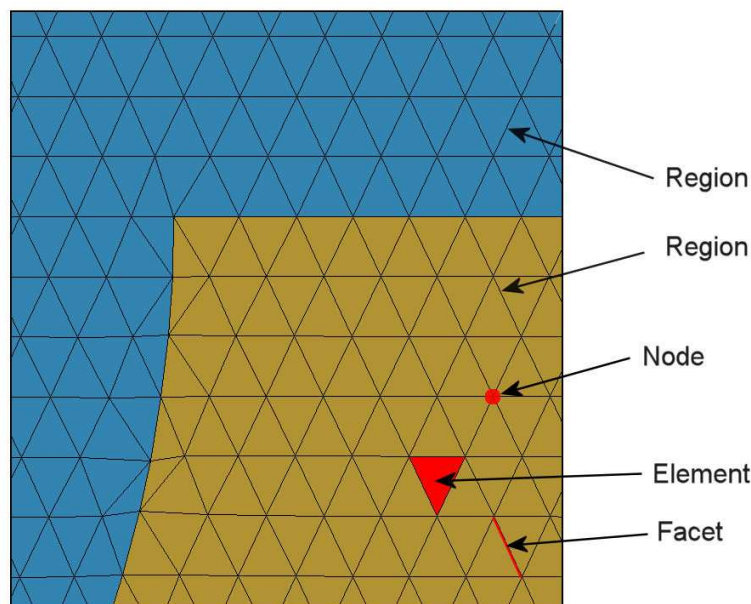

Figure 1: Conformal triangular mesh – definition of terms.
The basis of the finite-element approach is to divide the full solution volume into a number of small volumes, or *elements*. Here, the term *small* indicates that element dimensions are much less than the scale length for variations of field quantities. The division of the volume is called the *computational mesh*. Figure 1 shows the type of mesh used for the two dimensional solutions of **Nelson**. The figure defines three terms that will be used throughout this manual:
The elements in Fig. 1 have triangular cross-sections. In a planar solution, the cross-section lies in the x - y plane and the elements extend an infinite distance in the z direction. In a cylindrical solution, an element is a figure of revolution about the axis with a triangular cross-section in the z - r plane.
The mesh in Fig. 1 has the important property of *conformality*. The term means that the triangles have been specially shaped to conform to the boundaries between materials (*regions*). As a result, each element has an unambiguous material identity. The finite-element method is based on two approximations: 1) material properties in an element are uniform and 2) elements are small enough so that the field quantities can be approximated by simple interpolation functions. With these assumptions, the governing differential equation can be integrated over elements surrounding a node to yield a linear equation. This equation relates the field quantity at the node to those at the surrounding nodes. The coupled set has one linear equation for each node in the mesh. In **Nelson**, solution of the set representing the complex-value Poisson equation gives the quasi-electrostatic potential at each node. We can then perform two-dimensional interpolations to find harmonic potential at intervening points, or take numerical spatial derivatives to find the components of the electric field.
2. **Mesh** analyzes the boundary specifications and automatically generates a set of conformal triangles such as those of Fig. 1. The program creates an output file that lists the locations of nodes and the identities of elements.